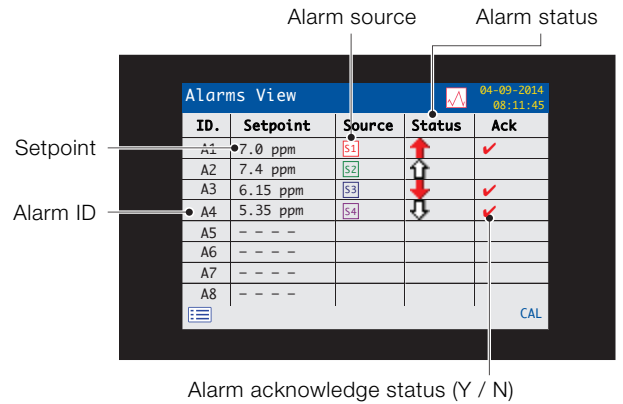

Fig. 8.9 Alarms view
- *Alarms view* – displays a list of alarms identified by priority (sequence number), source and status – see Fig. 8.9